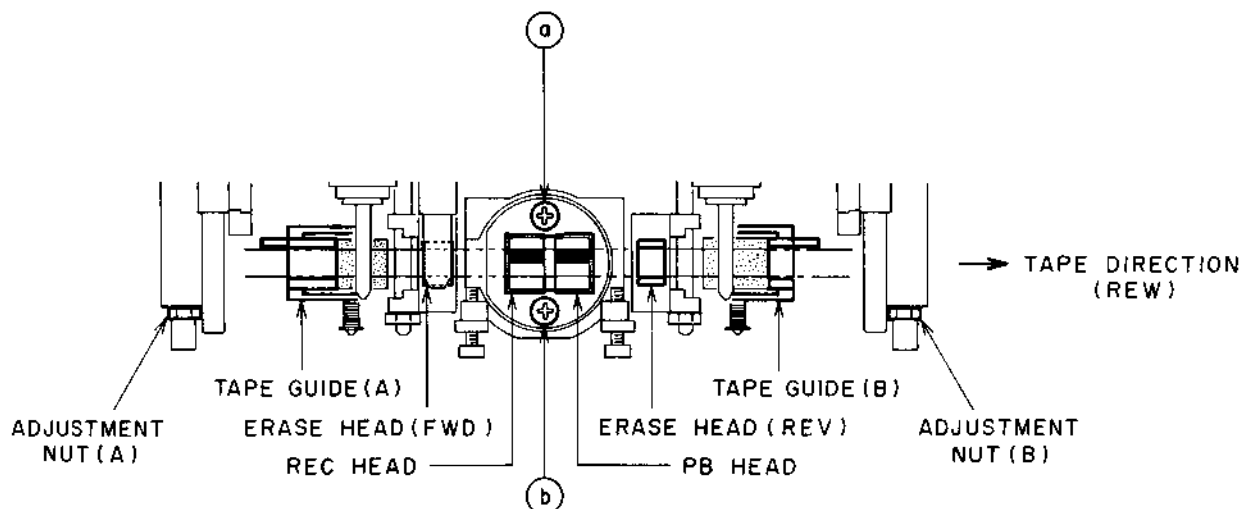

Fig. 6-1
6-1 TAPE GUIDE HEIGHT ADJUSTMENT (Refer to Figs. 6-1 and 6-2)
6-1-2 When only Erase Head was replaced (Refer to Figs. 6-1 and 6-2)
6-3 HEAD HEIGHT ADJUSTMENT (Refer to Figs. 6-1 & 6-2)
- 3) If the difference is more than ± 0.5 dBm in item 2), adjust the erase heads by turning both Erase Head Height Adjustment screws ⑦ & ⑧ in the same direction by $1/4$ turn (± 0.1 mm), so that difference is within ± 0.5 dBm.
- 4) The Head Height Adjustment is necessary if still the difference could not be corrected by above adjustment. It can be done by changing the Head Height Adjustment Spacers ⑨ & ⑩ (The thicknesses of these spacers are ⑨ = 0.45 mm, ⑩ = 0.35 mm). Loosen the screws ⑪ & ⑫ for the spacer replacement. If the level is lower in REV mode, it means that the head is too high, therefore replace the spacers by thinner ones. When the level is higher in REV mode, replace them by thicker ones. After the replacement of those spacers, do the same adjustment in item 1) and check the level of LINE OUT is -5.5 dBm ± 0.5 dBm. For the further confirmation, playback a 4 Track head Height Adjustment Tape (1 kHz/4 Track, AT-750775). Line Output level of both channels should be more than -8 dBm and the difference in level between FWD and REV modes should be within ± 1 dB. Otherwise do the fine adjustment in the same manner as item 3) & 4).
- 5) When the head replacement is necessary, loosen only the screws ⑬ & ⑭ in Fig. 6-1 for easy replacement.